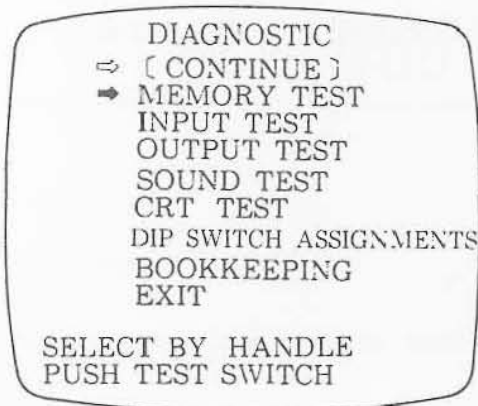

FIG. 1
- (1) Push the test switch and Fig. 1 will be shown on the screen.
- (2) Select CONTINUE or INDIVIDUAL by using the START button.
(4) When each test is finished in the case of CONTINUE, push the TEST button, and it will automatically go into the following test. If the TEST button is pushed in the case of INDIVIDUAL, FIG. 1 is shown. If you want to end the test mode at this time, bring the arrow to EXIT and push the TEST button, and it will return to the ADVERTISEMENT mode.
Every time the start button is pressed, the bookkeeping test display is repeated. When the test is finished, push the TEST button to end the test (in the case of "INDIVIDUAL", however, the test mode returns to Fig. 1 first).
In the state as shown in Fig. 1, operate the handle to bring the arrow to EXIT and push the TEST button. The self-testing will then end and return to the ADVERTISING mode.